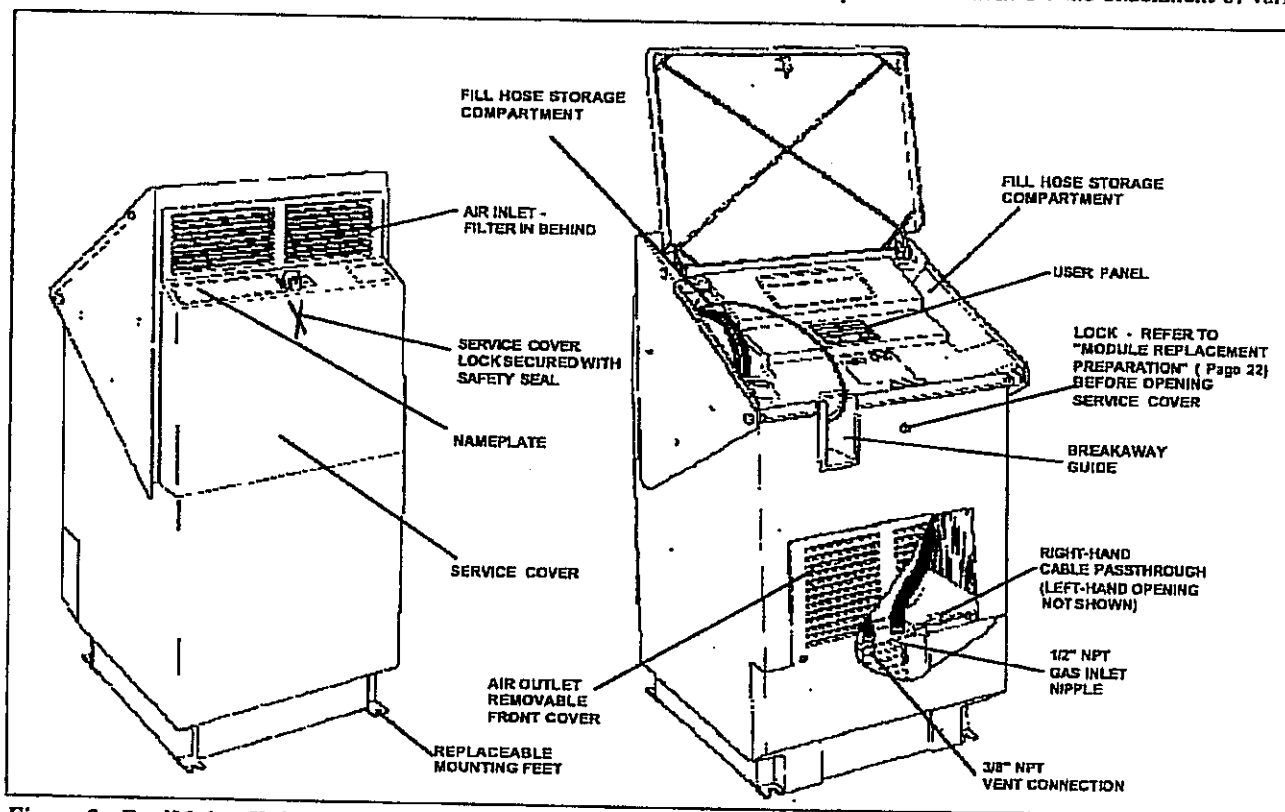

Figure 2 FuelMaker Unit
- ⑥ The gas supply is connected to the FuelMaker via a 1/2" NPT nipple provided (See Figure 2). A coupling and transition fittings need to be field-supplied in order to adapt to the supply piping system. Where the supply piping is fixed to a wall, a flex connector may be required to prevent noise transmission into the building.
The 3/8" NPT vent connection (See Figure 2) is protected from blockage by ice or insects by the supplied screen fitting. The Vent discharges any gas released by the pressure relief valve in order to protect the Blow-down System from over-pressurization. If the VRA must be installed near building openings, a 10 mm (3/8") minimum inside diameter steel vent line should be connected to the 3/8" NPT Vent Connection and routed to a safe place of discharge as required by the local codes. The maximum allowable vent line length is limited to 5 m (17 ft.) when using 3/8" vent to protect the low pressure switch from over-pressurization. Refer to the applicable gas code for appropriate pipe size if vent line must extend beyond 5m (17 ft.). Be sure to transfer the screen fitting to the end of the remote vent line (if applicable) to protect it from blockage.